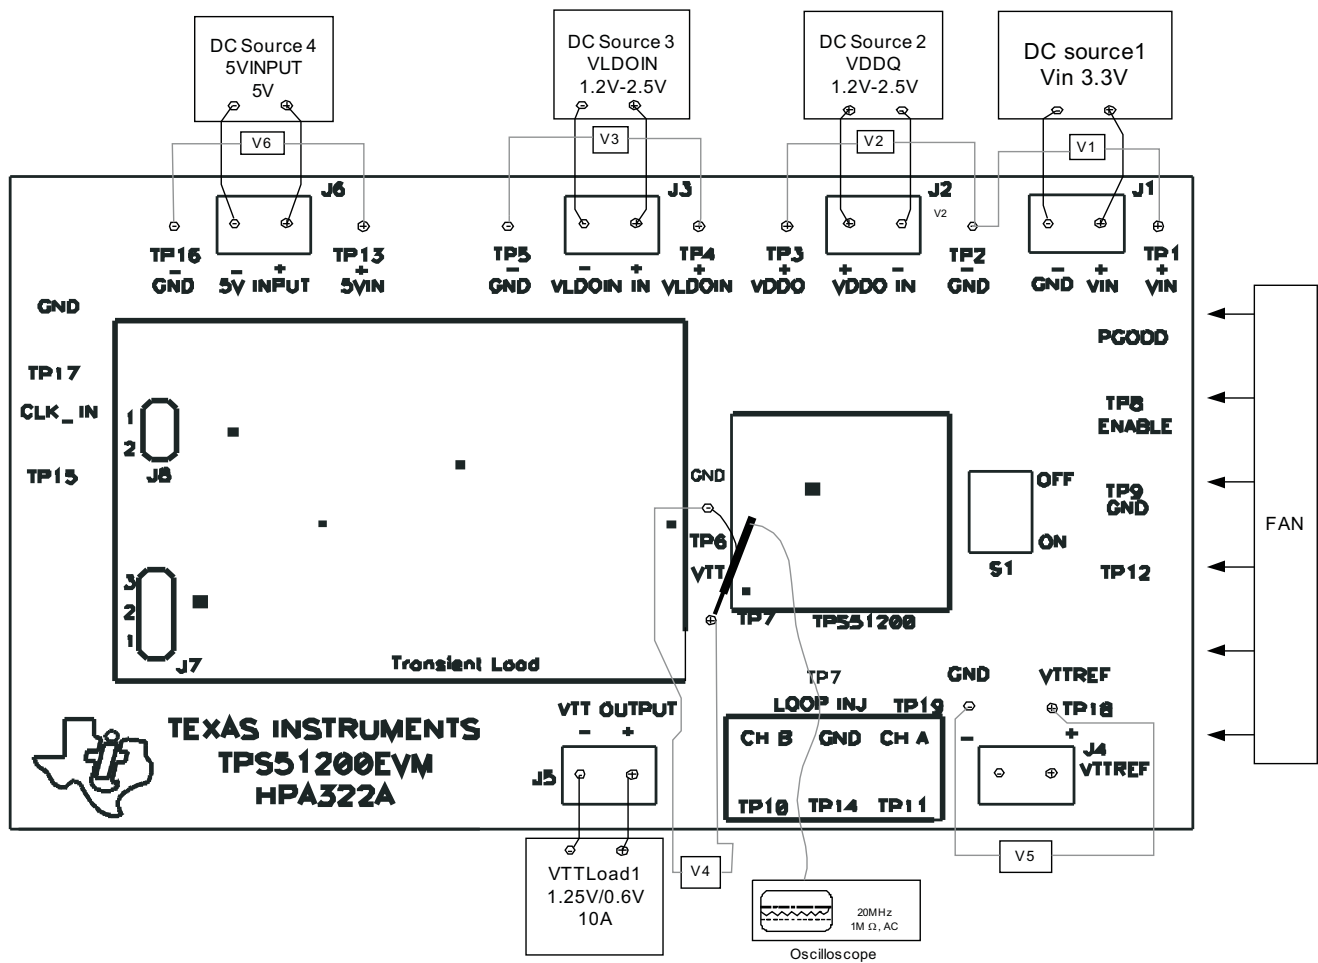

Figure 3. Recommended Test Setup
VIN	The input voltage source 1 should be a 0 V to 10 V variable DC source capable of supplying 1Adc. Connect Vin to J1 as shown in Figure 3 .
VDDQ	The input voltage source 2 should be a 0 V to 10 V variable DC source capable of supplying 1Adc. Connect VDDQ to J2 as shown in Figure 3 .
VLDOIN	The input voltage source 3 should be a 0 V to 10 V variable DC source capable of supplying 10Adc. Connect VLDOIN to J3 as shown in Figure 3 .
5VINPUT	The input voltage source 4 should be a 0-10V variable DC source capable of supplying 1Adc. Connect 5VINPUT to J6 as shown in Figure 3 .
Voltmeters (0V-10 V) are used to monitor the V_{IN} voltage (V1), VDDQ input voltage (V2), VLDOIN input voltage (V3), VTT output voltage (V4), VTTREF output voltage (V5), 5VIN input (V6) as shown in Figure 3
Load 1 is an electronic load set in constant current mode capable of sinking 0 A to 5 A of current. Load 1 needs to be connected to J5 as shown in Figure 3. Load 2 is recommended to use resistive load around 0.5 W. VTTREF only sink/source maximum 10 mA. Load 2 needs to be connected to J4 as shown in Figure 3.
1. Prior to connecting the DC input source, limit the source current and then connect the DC source to EVM as shown in Figure 3
2. Connect voltage meter (V1, V2, V3, V4, V5, V6) as shown in Figure 3.
3. For operation with load, connect Load 1 and Load 2 to EVM as shown in Figure 3.
8. Use scope probe to monitor VTT load transient regulation. The scope probe should be put at TP7 (+) and TP6 (-) by setting to AC with 20 MHz bandwidth limiting. Use a vertical resolution of 20 mV per division and a horizontal resolution of 200 μ s per division. The measurement should ignore high frequency switch transition "spike". Refer to Figure 3 and Figure 9.